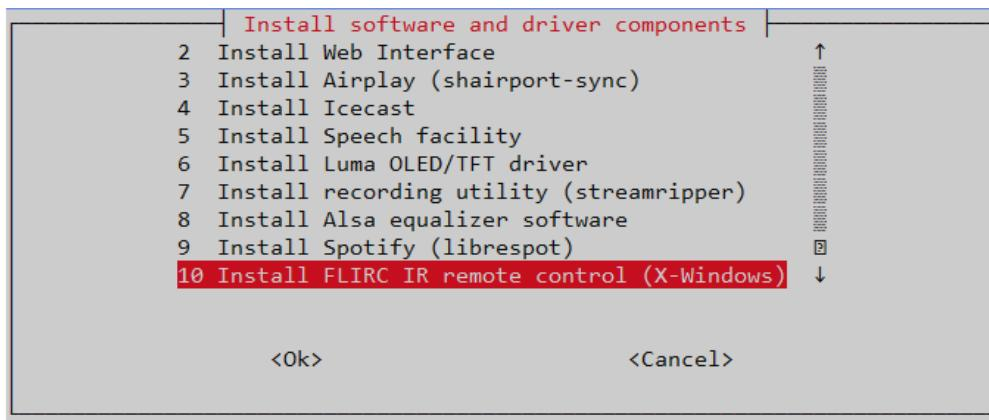

Figure 215 Install FLIRC IR remote control
- Select option **10 Install FLIRC IR remote control (X-Windows)** from the **radio-config** menu shown in *Figure 215 Install FLIRC IR remote control* on page 161. Note that you will need to use the down arrow key on your keyboard to see option 10.